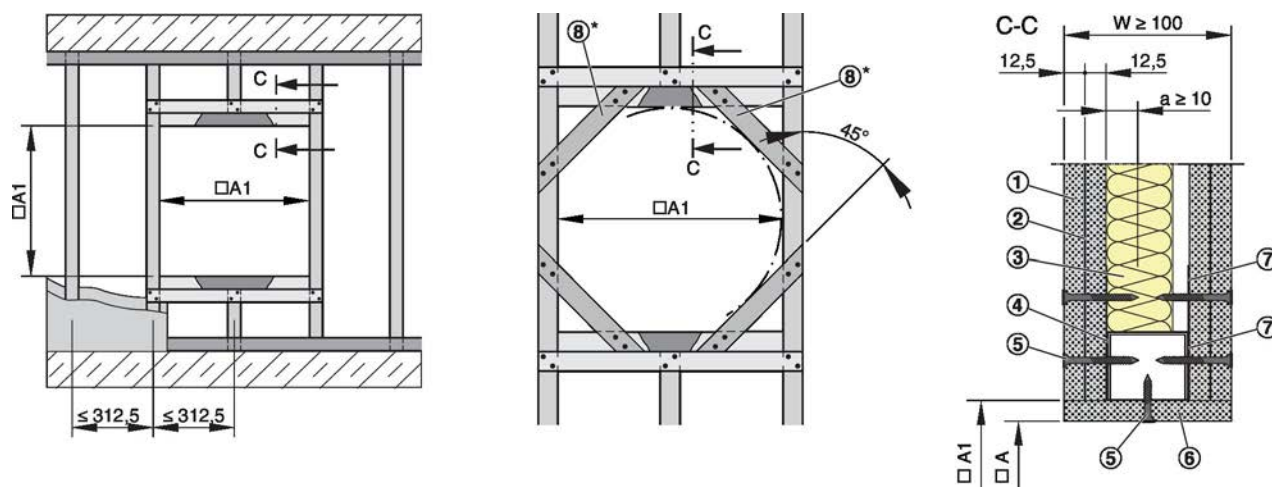

Fig. 35: Fire wall
- Create an installation opening, see Fig. 35:
- In case of mortar-based installation of fire dampers from nominal size Ø450, install four additional sections ⑧ at an angle of 45° in order to reinforce the metal support structure.